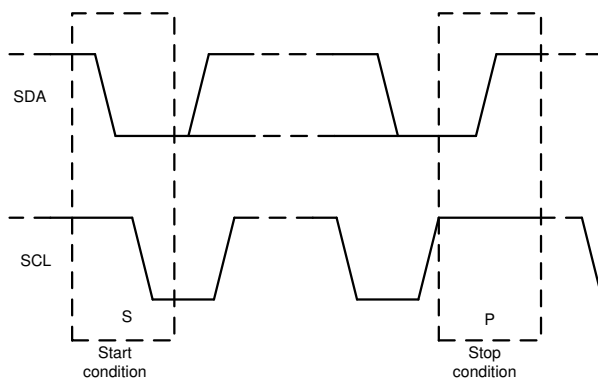

**Figure 6-18. Acknowledge and Not Acknowledge on the I2C Bus**
Other than specific timing signals, the I2C interface works with serial bytes. At the end of each byte, a ninth clock cycle generates and detects an acknowledge signal. An acknowledge is when the SDA line is pulled low during the high period of the ninth clock cycle. Figure 6-18 depicts a not-acknowledge, when the SDA line is left high during the high period of the ninth clock cycle.
2. The controller then generates the SCL pulses, and transmits the 7-bit address and the read/write direction bit ( $R/\overline{W}$ ) on the SDA line. During all transmissions, the controller makes sure that data are valid. Figure 6-20 shows that a valid data condition requires the SDA line to be stable during the entire high period of the clock pulse. All devices recognize the address sent by the controller and compare the address to the respective internal fixed address. Only the target device with a matching address generates an acknowledge by pulling the SDA line low during the entire high period of the 9th SCL cycle (see also Figure 6-18). When the controller detects this acknowledge, the communication link with a target has been established.